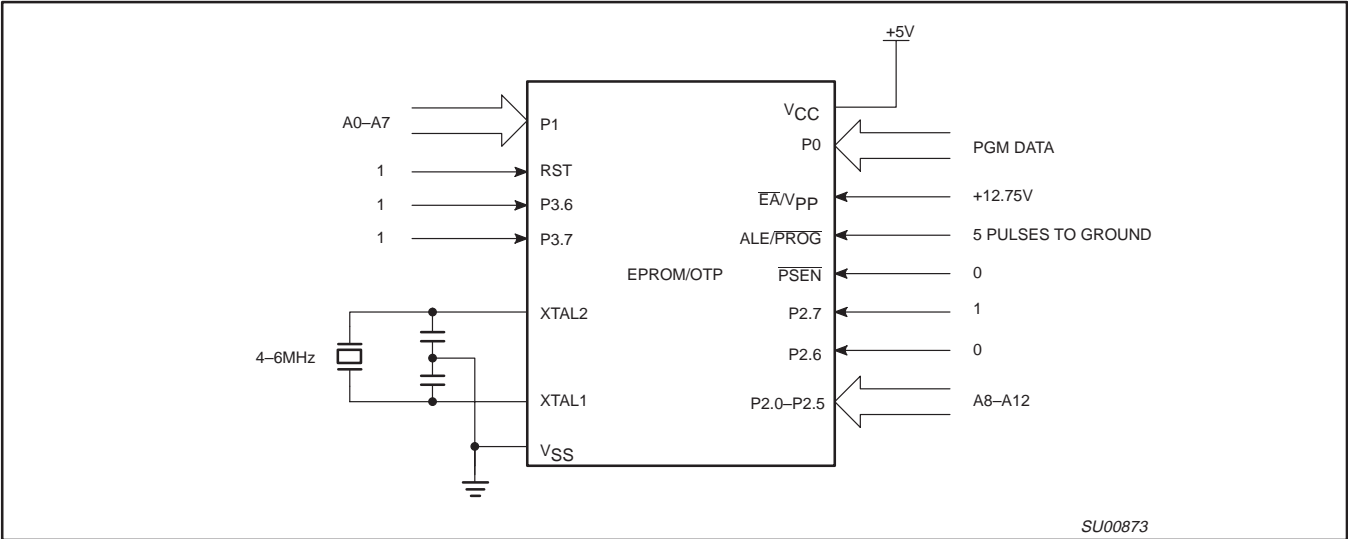
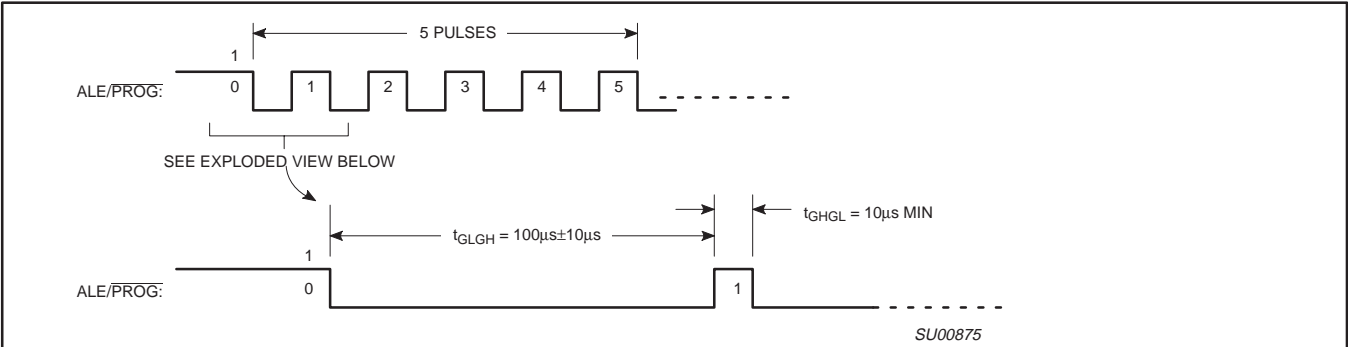
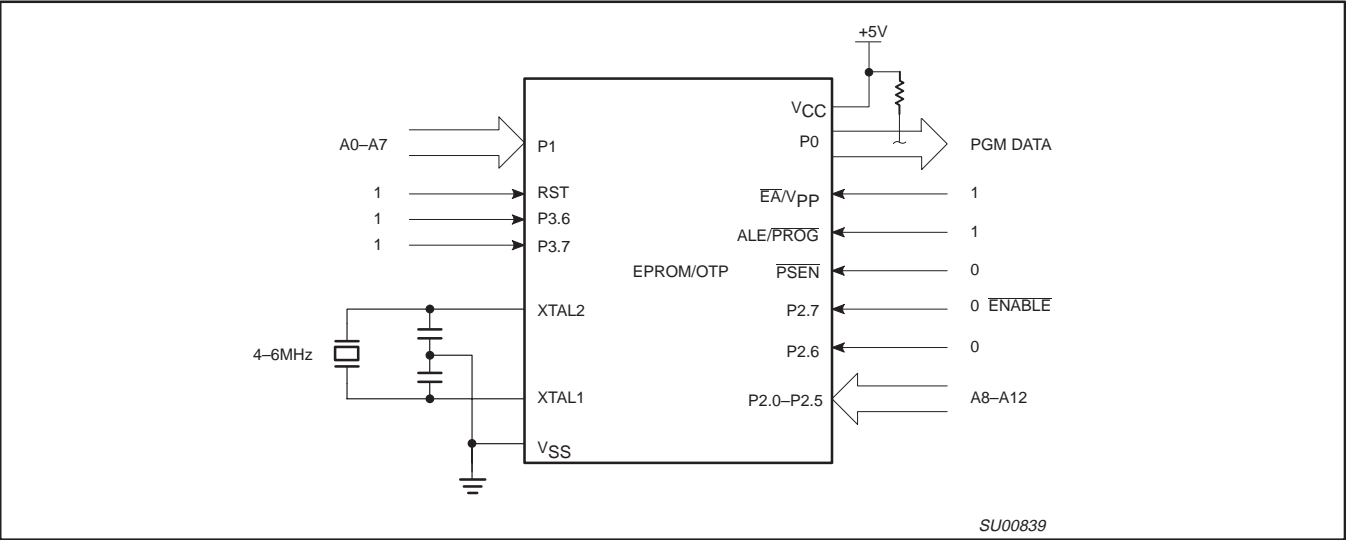

Figure 26. Programming Configuration
Figure 27.  $\overline{PROG}$  Waveform
Figure 28. Program Verification
Table 8 shows the logic levels for reading the signature byte, and for programming the program memory, the encryption table, and the security bits. The circuit configuration and waveforms for quick-pulse programming are shown in Figures 26 and 27. Figure 28 shows the circuit configuration for normal program memory verification.
The setup for microcontroller quick-pulse programming is shown in Figure 26. Note that the device is running with a 4 to 6 MHz oscillator. The reason the oscillator needs to be running is that the device is executing internal address and program data transfers.
The address of the EPROM location to be programmed is applied to ports 1 and 2, as shown in Figure 26. The code byte to be programmed into that location is applied to port 0. RST,  $\overline{PSEN}$  and pins of ports 2 and 3 specified in Table 8 are held at the 'Program Code Data' levels indicated in Table 8. The ALE/PROG is pulsed low 5 times as shown in Figure 27.
If security bits 2 and 3 have not been programmed, the on-chip program memory can be read out for program verification. The address of the program memory locations to be read is applied to ports 1 and 2 as shown in Figure 28. The other pins are held at the 'Verify Code Data' levels indicated in Table 8. The contents of the address location will be emitted on port 0. External pull-ups are required on port 0 for this operation.
- \* FOR PROGRAMMING CONFIGURATION SEE FIGURE 26.
FOR VERIFICATION CONDITIONS SEE FIGURE 28.